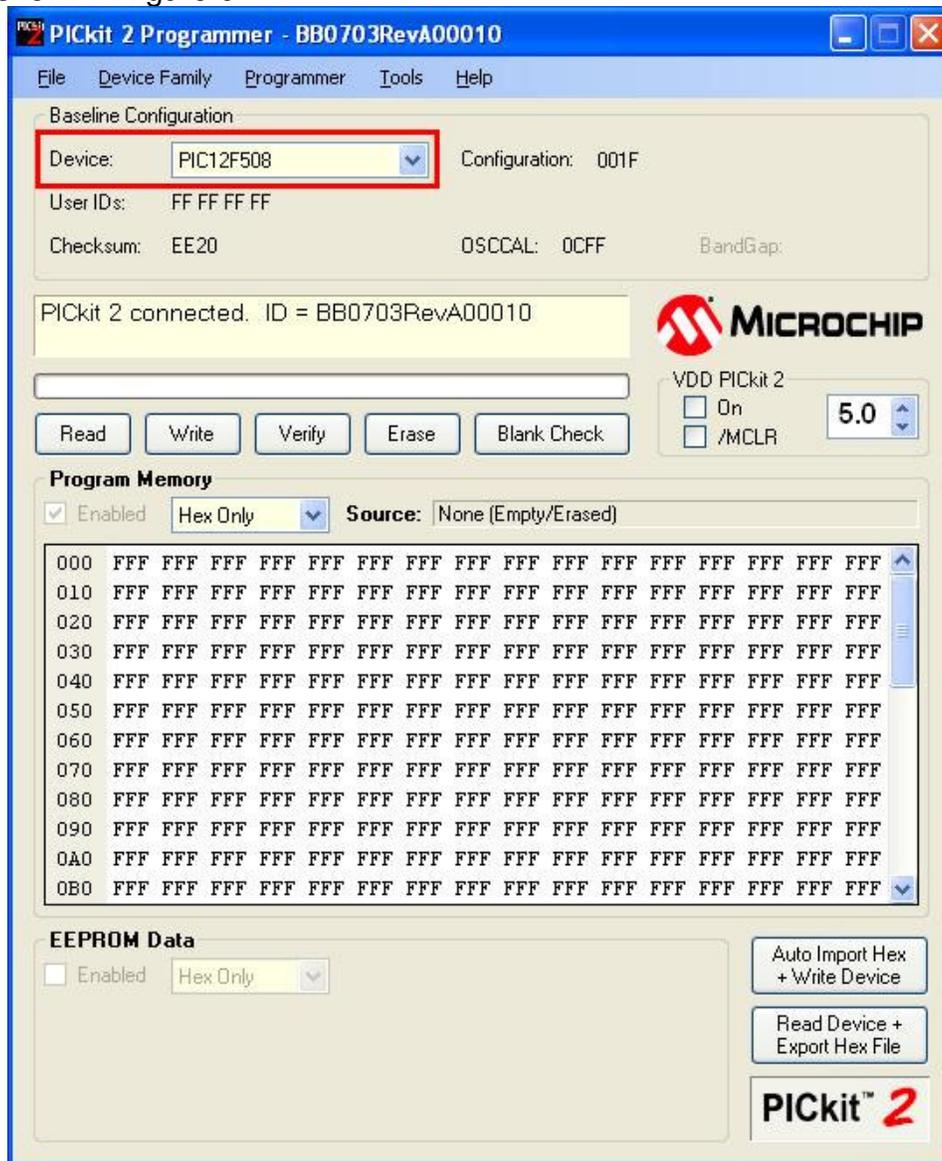

Figure 6 PICkit 2 Programmer window
2. “PICkit 2 Programmer” window shows up, select PIC12F508 from the device drop down list, as shown in figure 6.